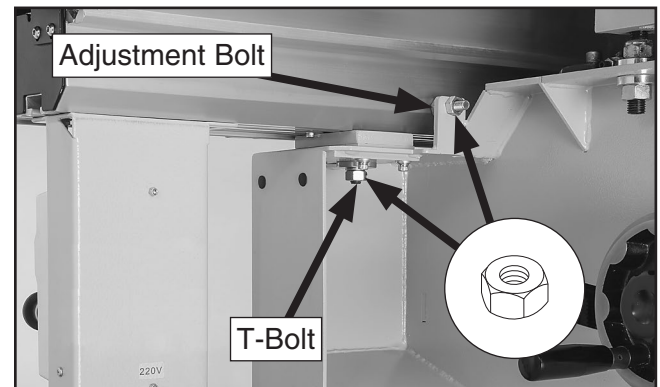

Figure 158. Front parallelism adjustment bolt and T-bolt.
6. Loosen (2) hex nuts on sliding table T-bolts, then loosen hex nuts on adjustment bolts (see **Figures 158–159**).